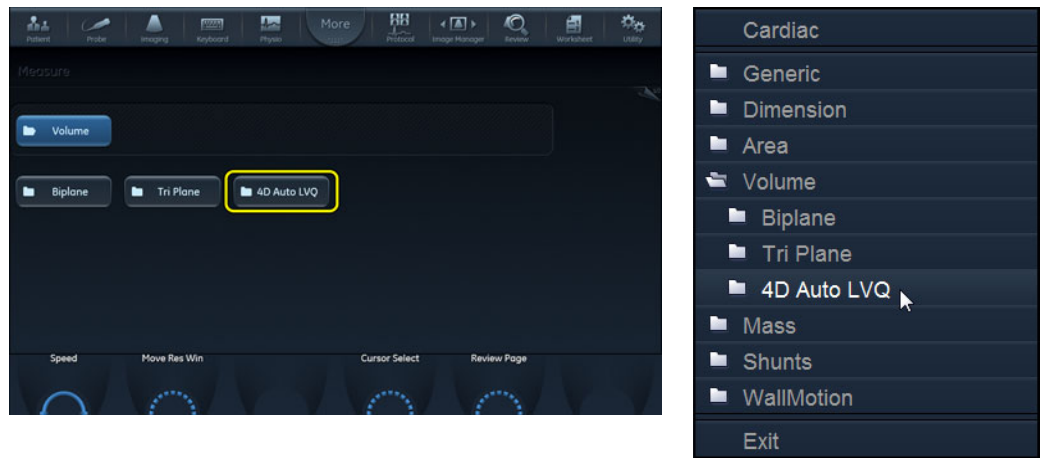

Figure 8-25. 4D Auto LVQ measurement selection
- 3. Select **Volume/4D Auto LVQ** (Figure 8-25).
The *Measurement* menu is displayed with the Alignment tool selected (Figure 8-25).